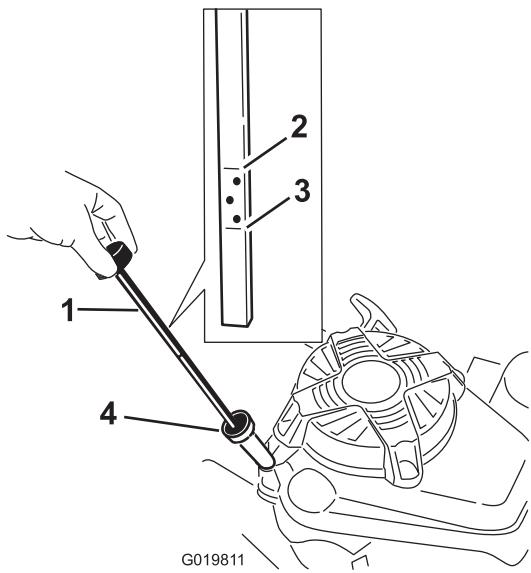

Figure 14
Before each use, ensure that the oil level is between the **Add** and **Full** marks on the dipstick (Figure 14).
2. Clean around the dipstick (Figure 14).
6. Read the oil level on the dipstick (Figure 14).